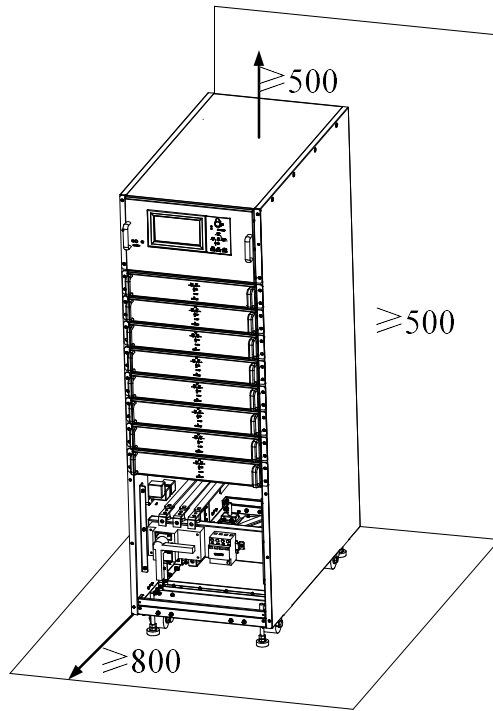

Figure 3-5 Cabinet space reservation schematic (unit: mm)
- Reserve at least 0.8 meters in front of the cabinet to replace the power module and bypass module. The cabinet should be reserved for at least 0.5 meters space in back for air flow and heat dissipation, As Figure 3-5 shows ◦